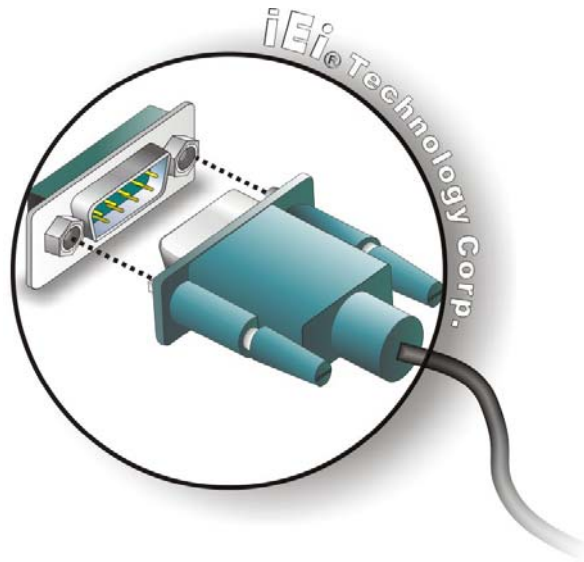

Figure 2-21: Serial Device Connector
Step 2: Insert the serial connector. Insert the DB-9 connector of a serial device into the DB-9 connector on the external peripheral interface. See **Figure 2-21**.